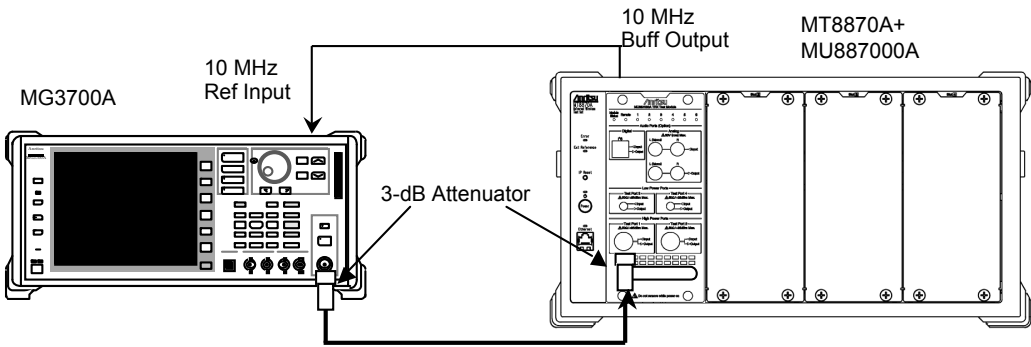

Figure 6.3.5-1 Setup for Measuring Tx Power Measurement Accuracy
1. Setup the instruments as shown in Figure 6.3.5-1.